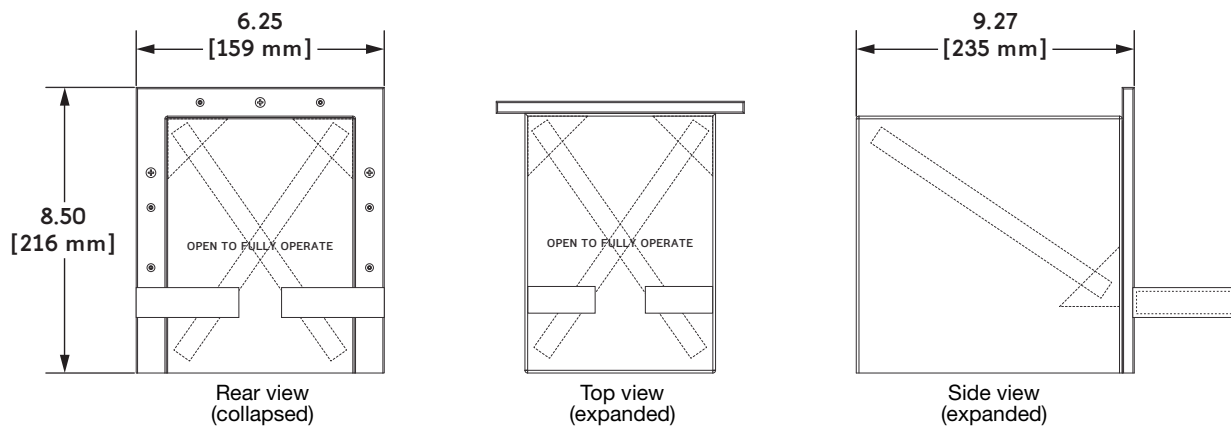

Figure 22: Rain Hood Struts
3. Reach inside the rain hood and free the two struts (Figure 22) from the top corner pockets nearest the loudspeaker.